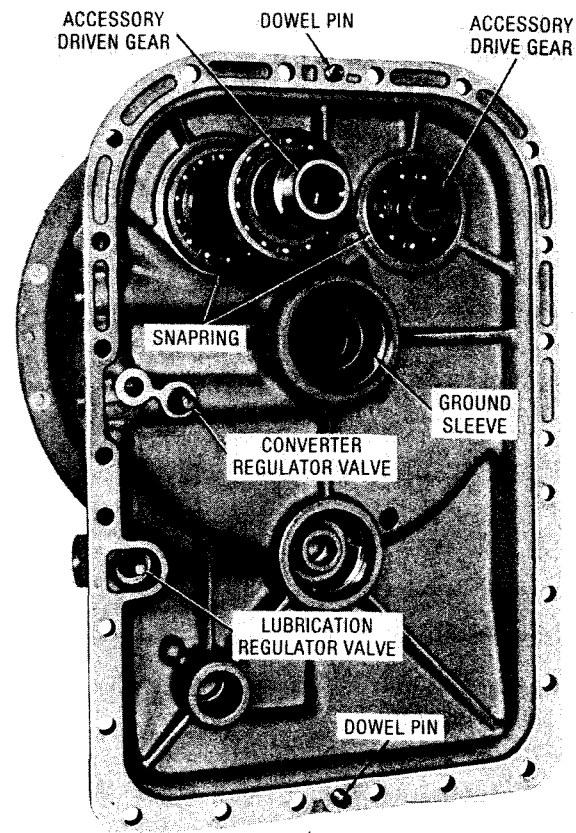

Fig. 6-7. Torque converter housing—rear view
(6) At the rear of the converter housing, remove the snapping that retains the outer race of the accessory-driven gear bearing (fig. 6-7). Tap the accessory-driven gear forward and remove it and the attached parts from the housing.
(7) Remove the outer race and rollers of bearing 12 (foldout 7,B). Press the inner race of bearing 12 from accessory-driven gear 2. Remove snapping 11 and bearing 10 or separable bearing 45.
(8) On transmissions equipped with an accessory drive gear, remove the snapping from the accessory gear bearing (fig. 6-7). Tap the accessory drive gear forward and remove it and the attached parts from the housing.
(9) Remove snapping 7 (foldout 7,B) and bearing 6 from accessory drive gear 1.
(10) Use care during this operation to prevent damage to the protruding converter pressure regulator valve 23 or lubrication by-
pass tube 30, if present. If replacement of the ground sleeve is necessary, remove the four attaching bolts and press the sleeve from the converter housing (fig. 6-7).